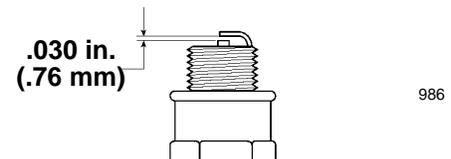

Figure 16
3. Set the gap on the new plug to 0.030" (0.76 mm) (Fig. 16).